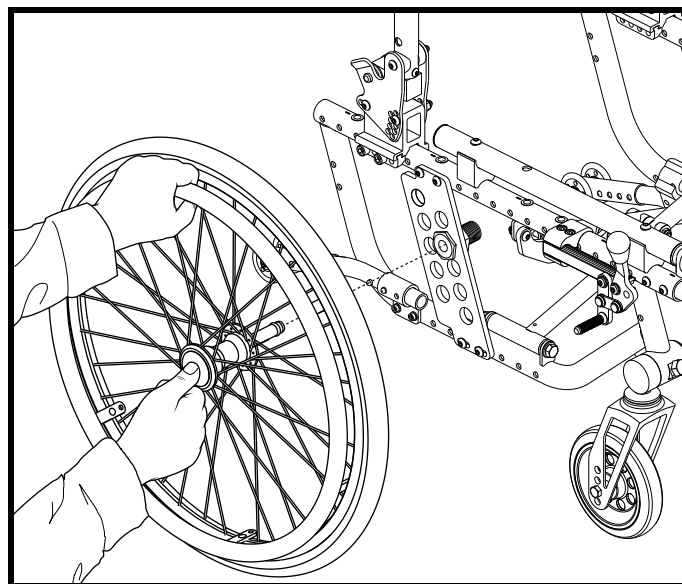

Figure 13. Drive Wheel Quick Release
1. Remove the drive wheels. See figure 13.
1. Press the quick-release button and pull the drive wheel off. See figure 13.
1. Remove the drive wheel. See figure 13.